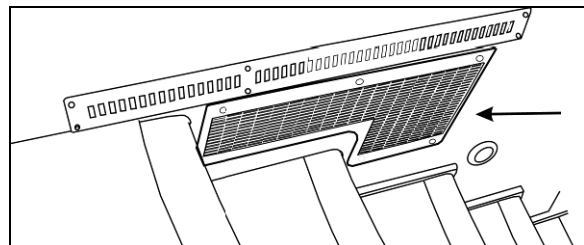

FIGURE 16: R.H. CONSOLE AIR FILTER ACCESS GRILL (COACHES) 18505
The driver's HVAC unit is located behind the dashboard's R.H. side panel. To gain access to the A/C filters, unscrew the grille located at the top entrance step (Figure 16). Unscrew the plastic cover and slide out the recirculating air filter (FIGURE 17). Doing so will give you access to the fresh air filter (see item 18, Figure 72).